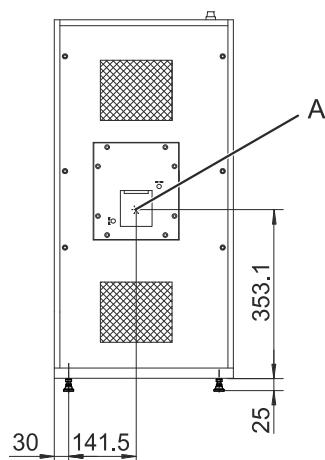

Figure 38: Beam exit position
The exact position of the beam exit aperture is shown in Figure 38 (A).